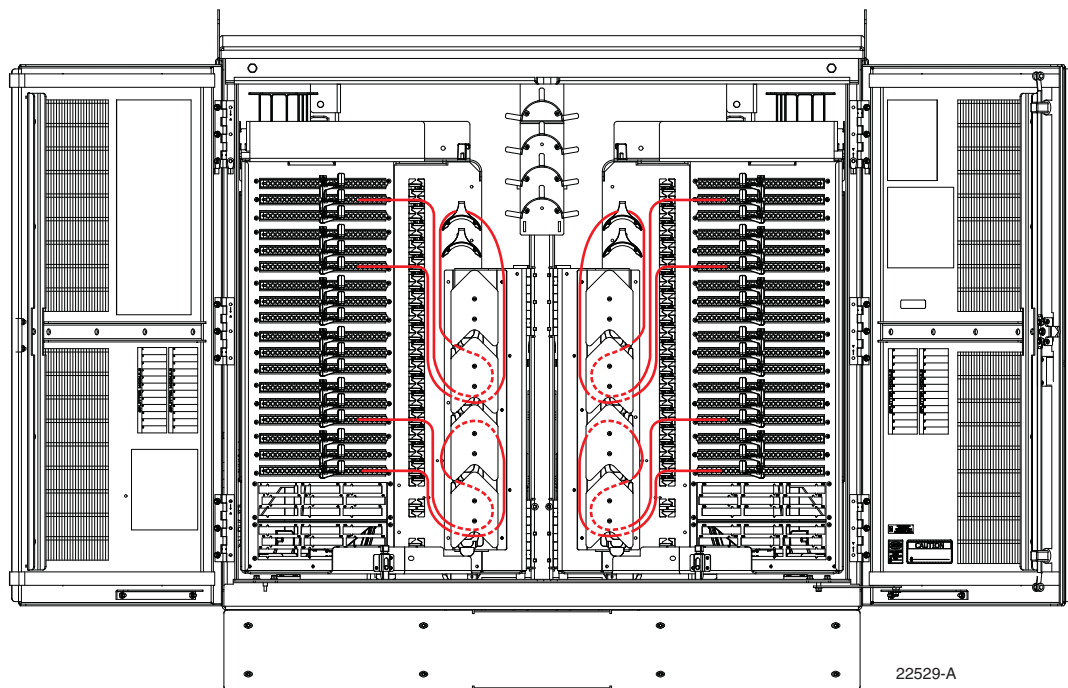
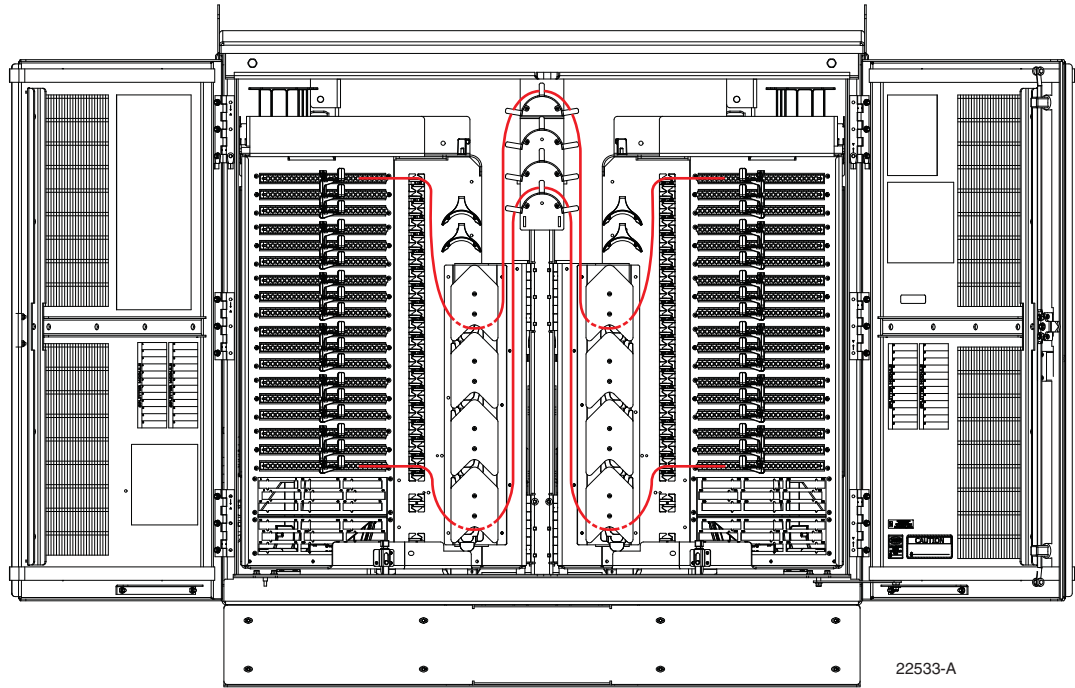

Figure 25. Routing Jumper Patch Cords - Connector Panels on Same Side of Cabinet
Figure 26. Routing Jumper Patch Cords - Connector Panels on Opposite Sides of Cabinet
4. Route the jumper patch cord and store the excess slack as shown in Figure 25 (panels on same side of cabinet) or Figure 26 (panels on opposite side of cabinet).